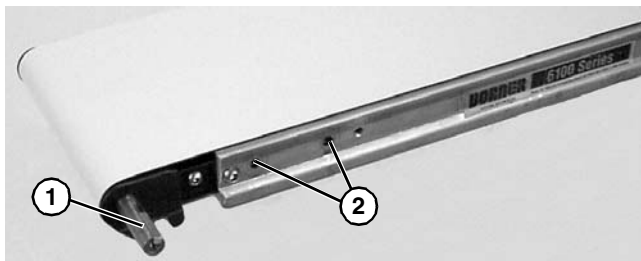

Figure 9
3. Locate drive output shaft (**Figure 9, item 1**) and remove two (2) screws (**Figure 9, item 2**).